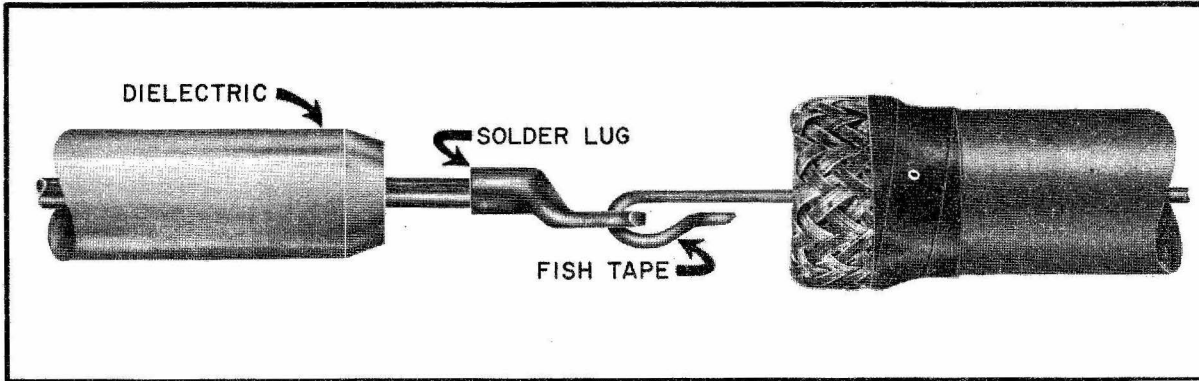

Figure 5-8k. Reinstalling Jacket and Braid Using Fish Tape
Step 10. - Replace the jacket and braid that was removed from the cable in step 4. Replacement may be made easier by using insulating compound and a fish tape. Solder a lug to the inner conductor of the cable to act as a connection for the fish tape. Slide the fish tape through the jacket and braid and connect to the lug (see figure 5-8k). Lubricate the dielectric with a small amount of insulating compound. The jacket and braid can now be easily replaced keeping the cable inner conductor and dielectric straight and taut while sliding the jacket and braid back over the cable dielectric.